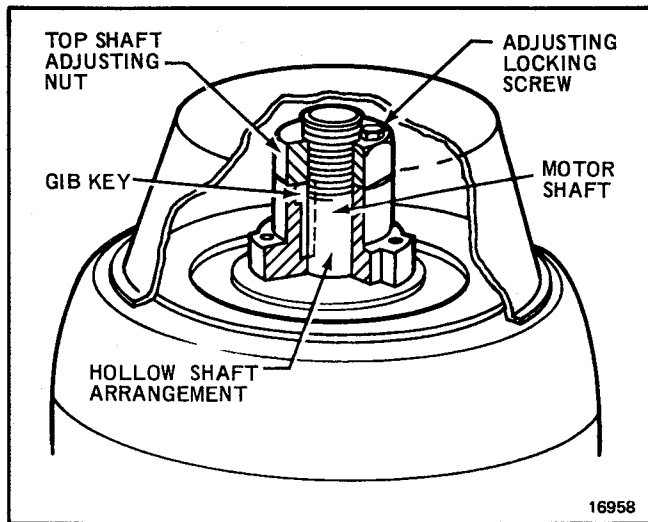

FIG. 6-1a - IMPELLER ADJUSTMENT - HOLLOW SHAFT
- 3.) Remove locking screw from coupling (see Figure 6-1a or 6-1b).